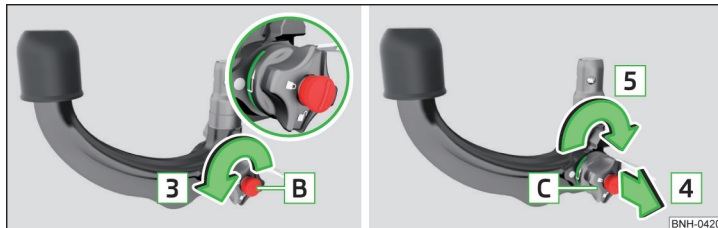

Fig. 105 Setting the ready position
- Turn the key **B** to the stop in the direction of arrow **3**, so that the arrow on the key symbol **!** » Fig. 105 shows.